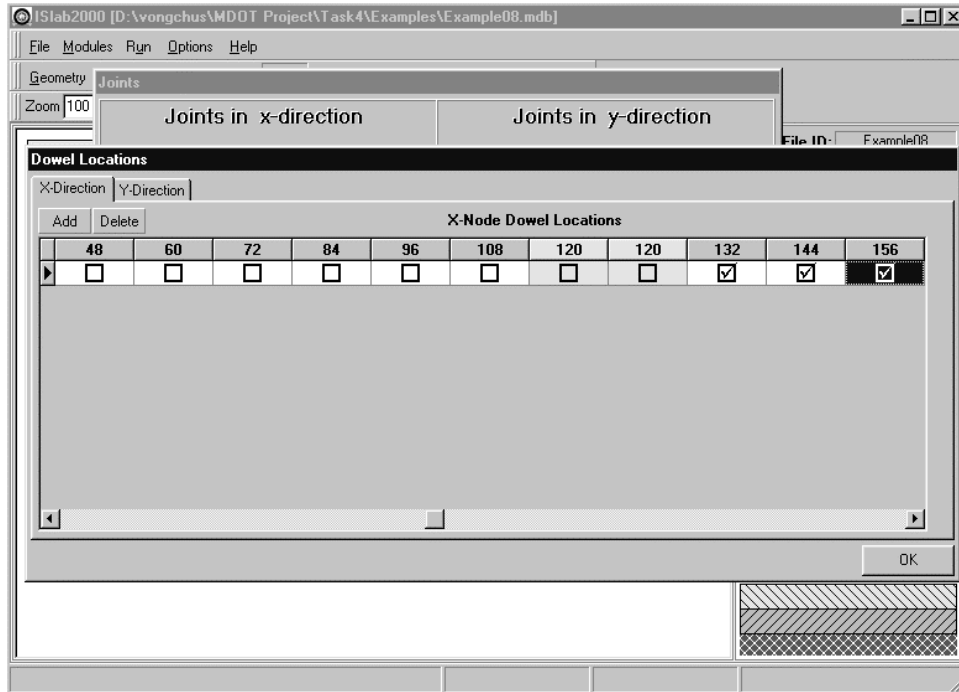

Figure E8-8: Edit Inputs for the Joints Module (continued)
Step 4: On the dowel locations panel, select the **X-Direction** tab, and then click **Add**. Enter "Location1" in the **ID** field, and then double click on the locations 132, 144... 252. Leave all the locations in the shoulder (locations 12, 24...108) blank (see Figure E8-8). Click **OK** to close the dowel location panel.